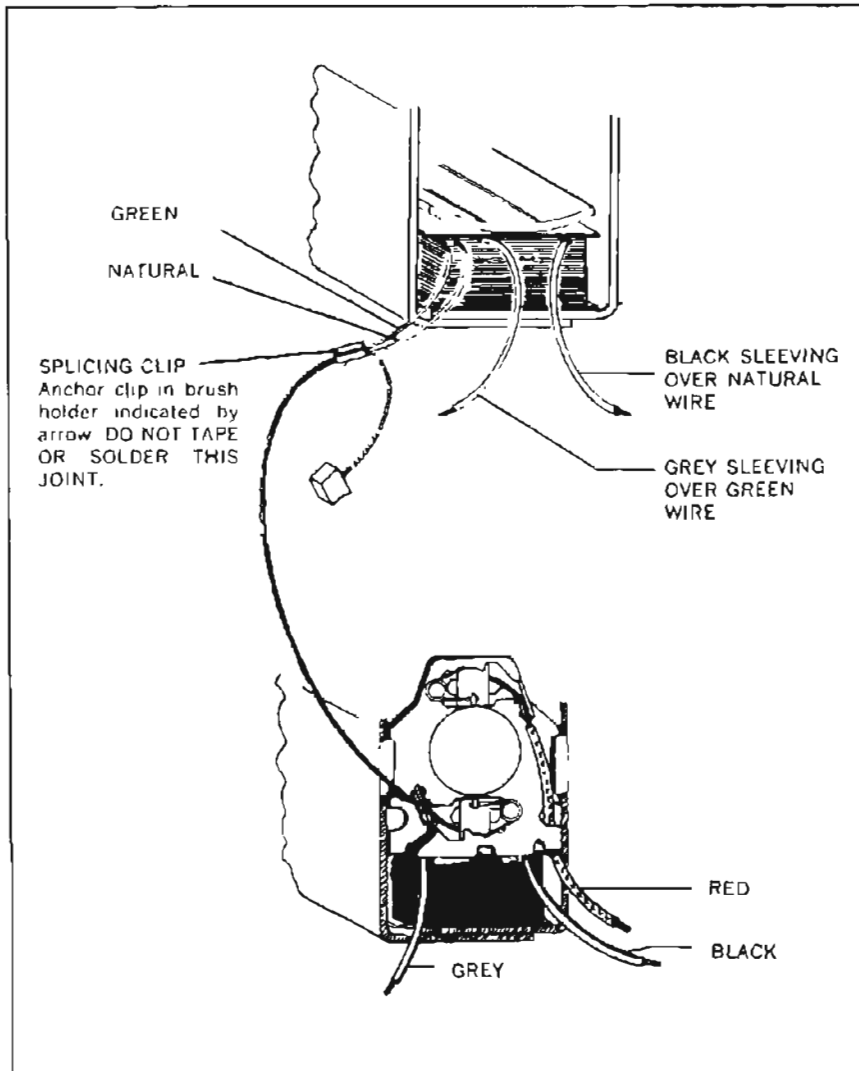

Figure 10-89—Two Speed Motor Wiring
5. Wiper Crank Arm Does Not Return To Park Position When Wiper Is Turned Off, Park Position is shown in Figure 10-89. Check for dirty, bent or broken park switch contacts.
Except for the internal wiring to the wiper terminal board, the disassembly and assembly procedures for the two speed wipers covered in this section are the same as those outlined for the single speed wipers in paragraph 10-56 of this manual. See Figure 10-89 for internal wiring.